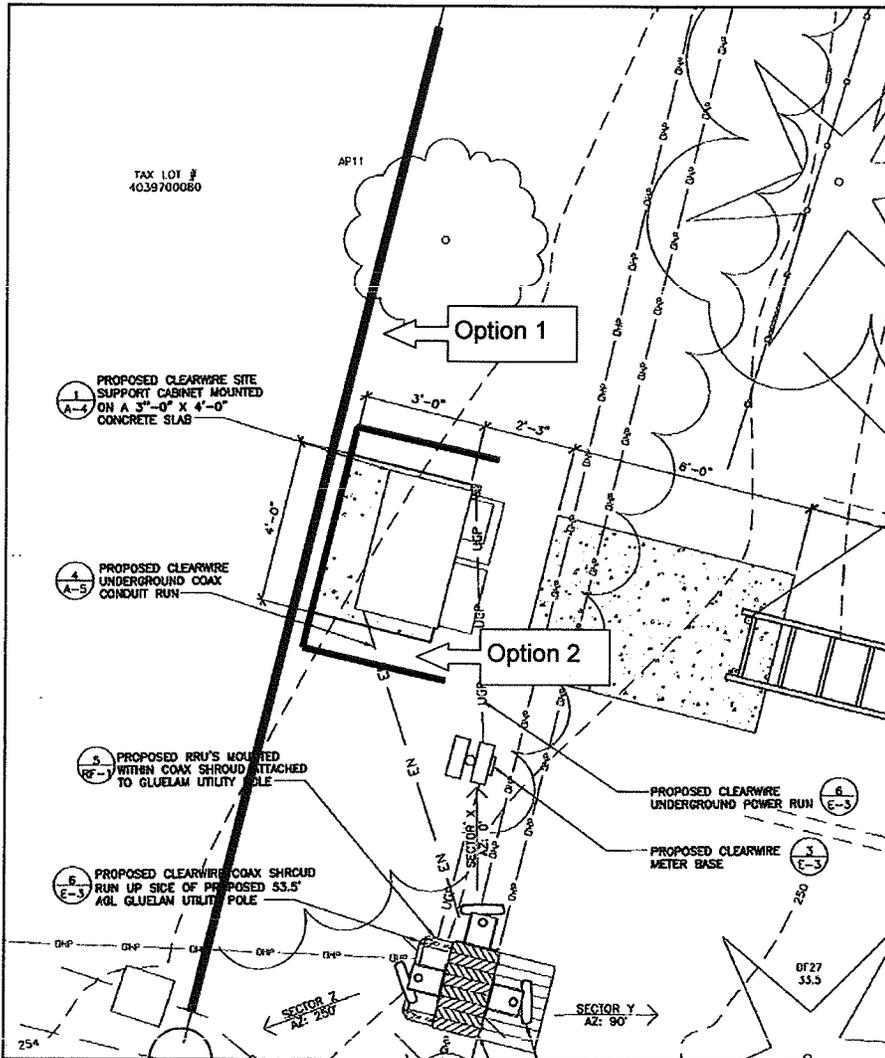

Figure 1: Barrier Improvement Options
- Improve or add a noise barrier at one of the locations shown in Figure 1. Option 1 is a noise barrier improvement to the existing fence and Option 2 is a new noise barrier to be constructed around the proposed equipment.